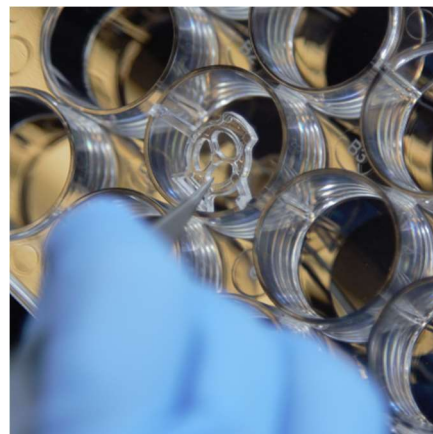
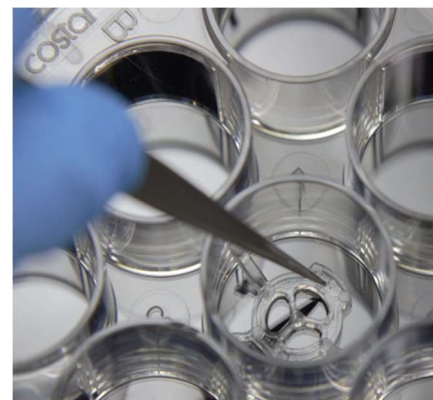

Figure 1: Fit device into well.
Figure 2: Apply downward pressure to device.
With a pair of needle-nose tweezers, grasp the monorail device and press it into the well of a 12-well plate, as seen in **Figure 1**. To ensure that the device is flush with the base of the well, use tweezers to press down on the device around the edges. **Figure 2** shows one such place where pressure should be applied, but it is advisable to also apply pressure in several other locations around the edge of the device.
- Put devices into 12-well plate as seen in **Figure 1 in Protocol A**. (*Note:* The maximum number of devices that can be used per 12-well plate is 8 devices. The four corner wells must be left empty for filling sacrificial water as described below.)
- Press down on the device with tweezers as seen in **Figure 2 in Protocol A**. Make sure the device fits tightly in the wells.